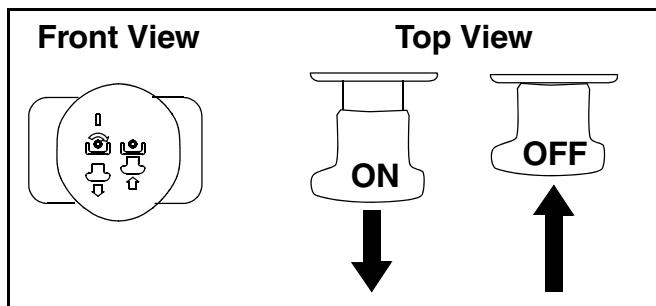

Figure 11
- Pull the PTO/Blade Engage knob outward into the engaged (ON) position. See Figure 11.